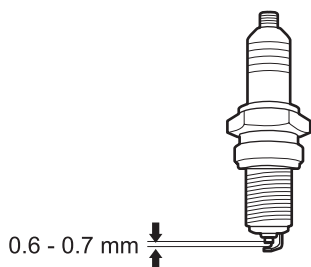

Fig.18
- > Disconnect the spark plug connector (2).
- > Loosen the spark plug with the multi tool (23) as spark plug wrench and carefully remove it.
- > Check the spark plug gap. It should be 0.6 – 0.7 mm (Fig. 18).